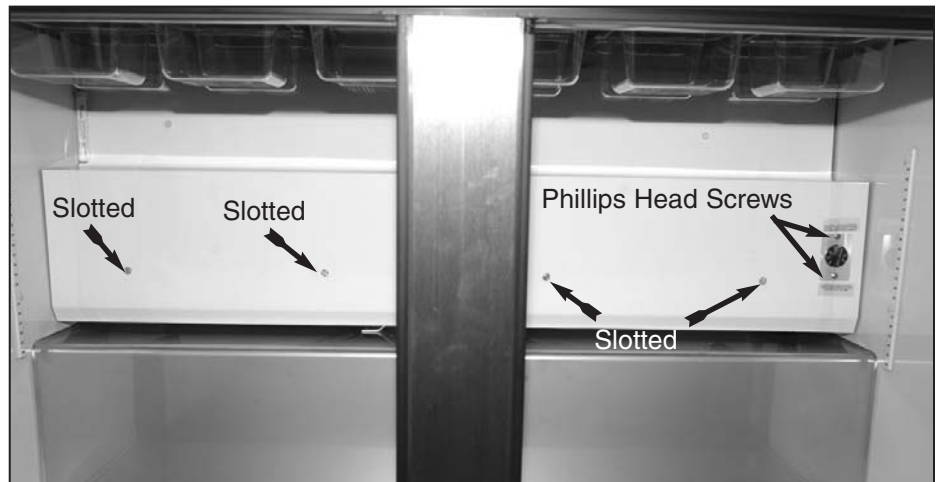

Figure 3. Removing evaporator lid
A. Remove four slotted thumb screws with a standard screw driver. Then remove two phillips-head screws next to the temperature control knob. At this point all cabinets with pans (TSSU models) can have the pans removed for easier access to the temperature control. Gently move the evaporator cover away from the rear of the cabinet to reveal the temperature control. (See Figure 3)